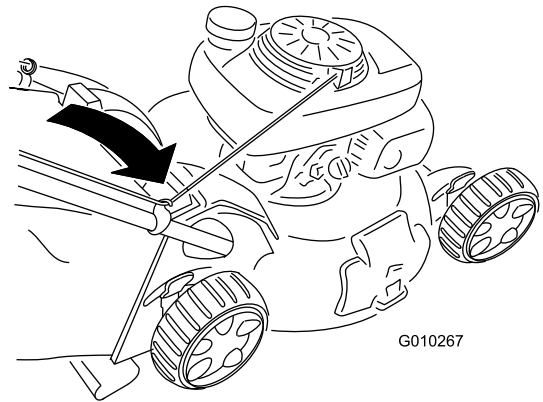

Figure 27
2. Route the starter rope around the lower-rope guide (Figure 27).